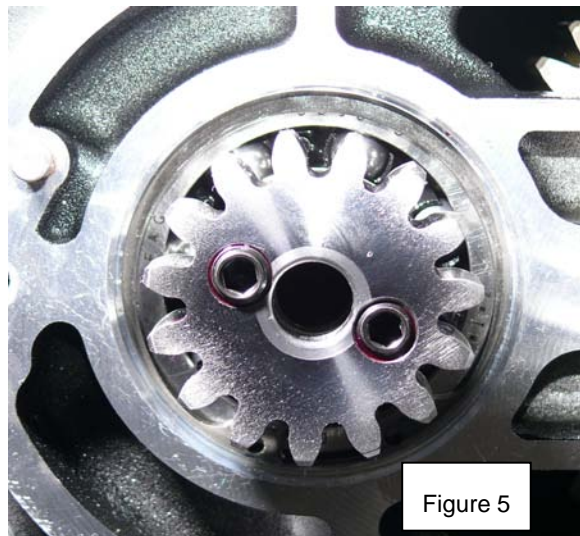

Figure 5
- 3.11 Apply red Loctite to the threads of the stainless steel locking screws and install into the small gear. Figure 5